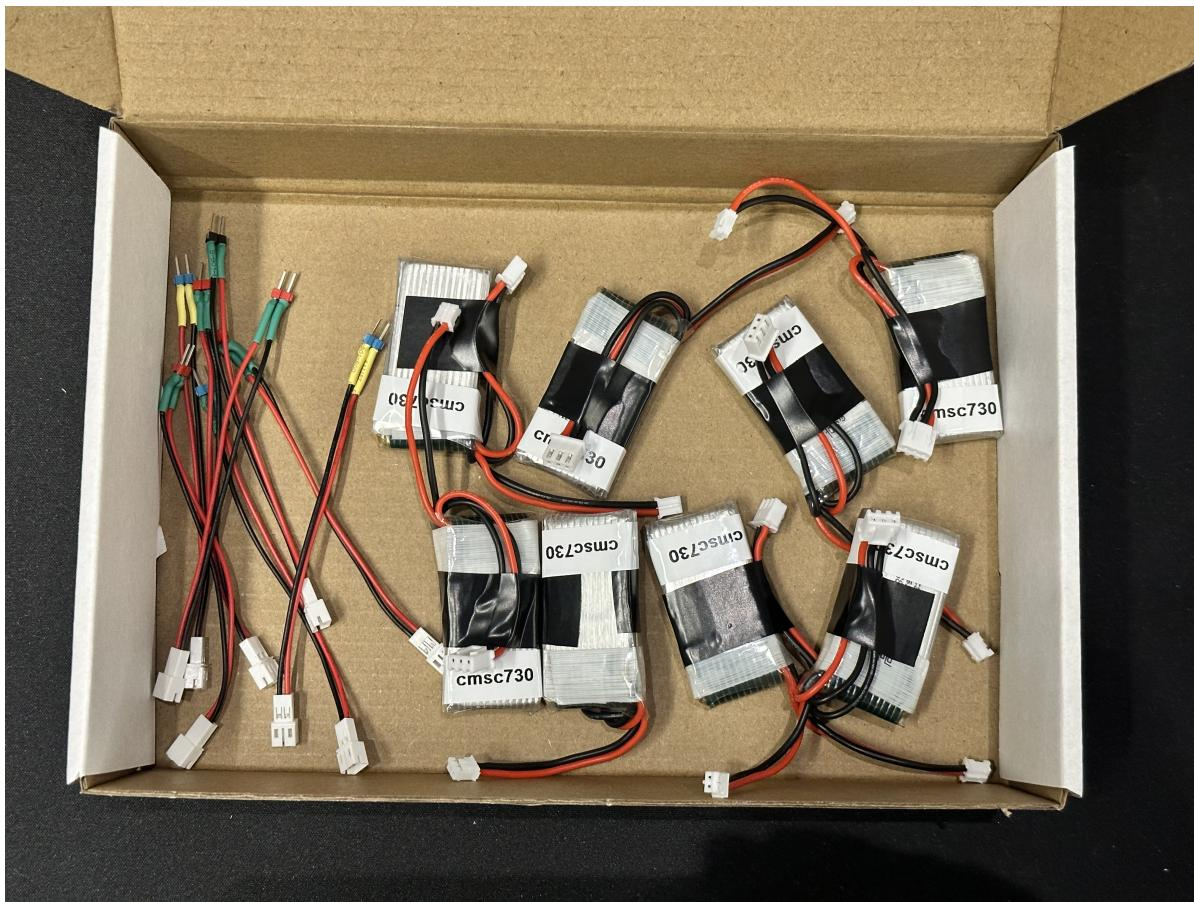

Figure 3: 8 batteries can be used for testing.
2. 8 of 7.4v 250-300mah Li-Po batteries, for sharing (Figure 3).